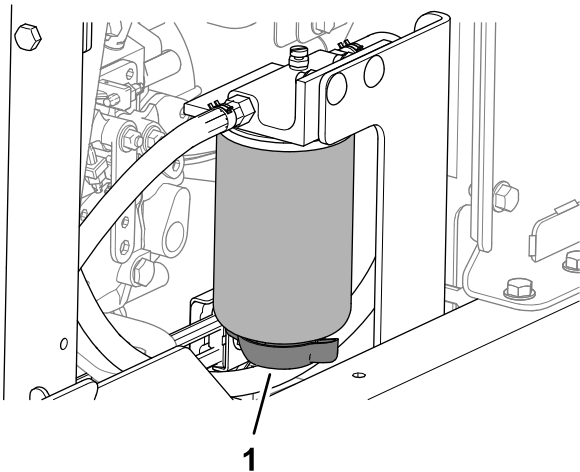

Figure 83
3. Align a drain pan under the drain valve of the fuel-water separator (Figure 83).